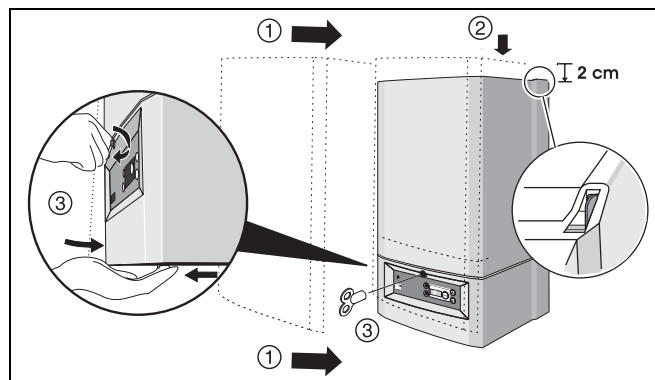

fig. 57 Refit casing
- Refit the casing and secure the boiler with the radiator key (see fig. 57).